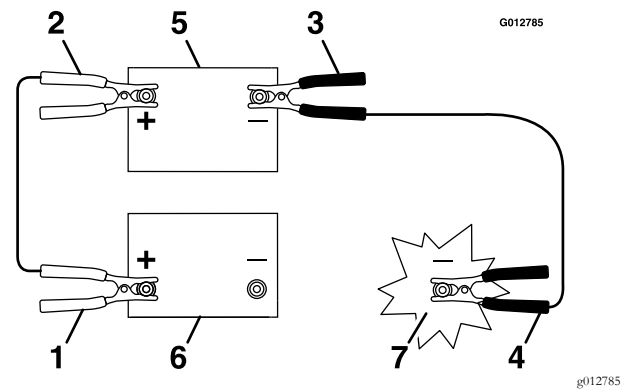

Figure 38
3. Connect the positive (+) cable to the positive (+) terminal of the discharged battery that is wired to the starter or solenoid as shown in Figure 38.